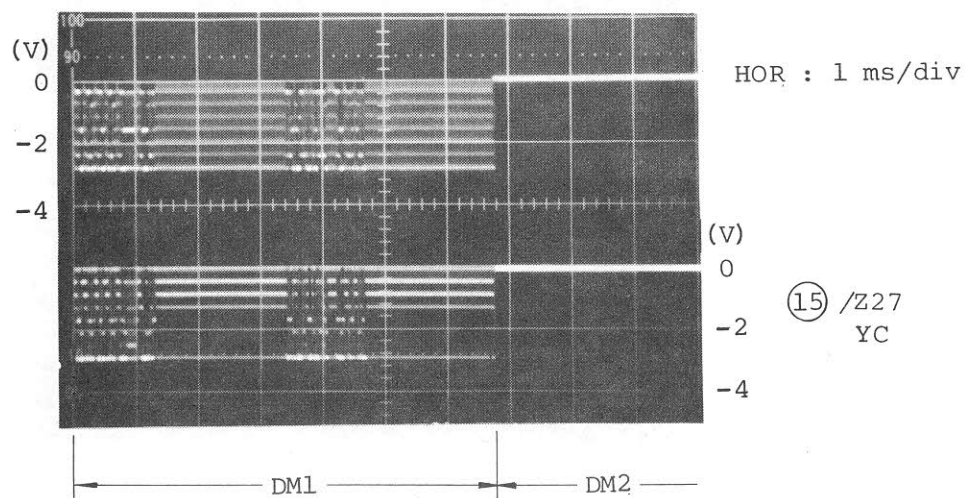

Fig. 5-79 Character Generator Output
8.	Using an oscilloscope, check that X output XC ⑭ and Y output YC ⑮ of the character generator are as shown in Fig. 5-79.